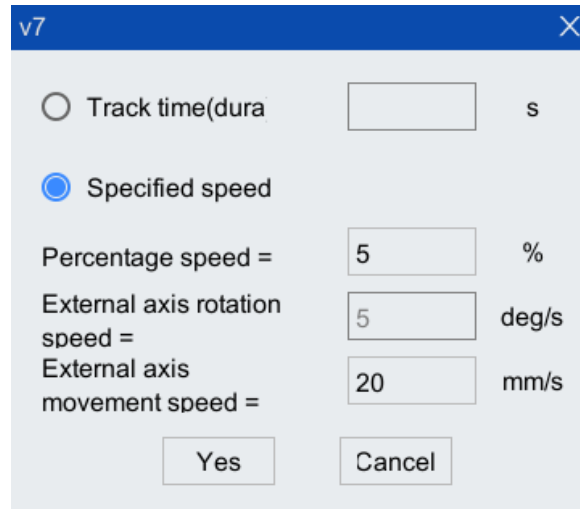

Figure 5-16 "v" variablesetting box
Step4.For the speed parameter v, you can enter the value directly in the edit box to complete the speed percentage setting. You can also click <...> button to modify the specific velocity value in "v" variable setting box, as shown in Figure 5-16.
Step8. The text box behind the trajectory time dura is read-only. The displayed data needs to be set in the "v" variable configuration interface as shown in Figure 5-16. After modification, click the <Yes> button.
Step10. Click the <Insert > button in Figure 5-16, and the instruction is inserted successfully.